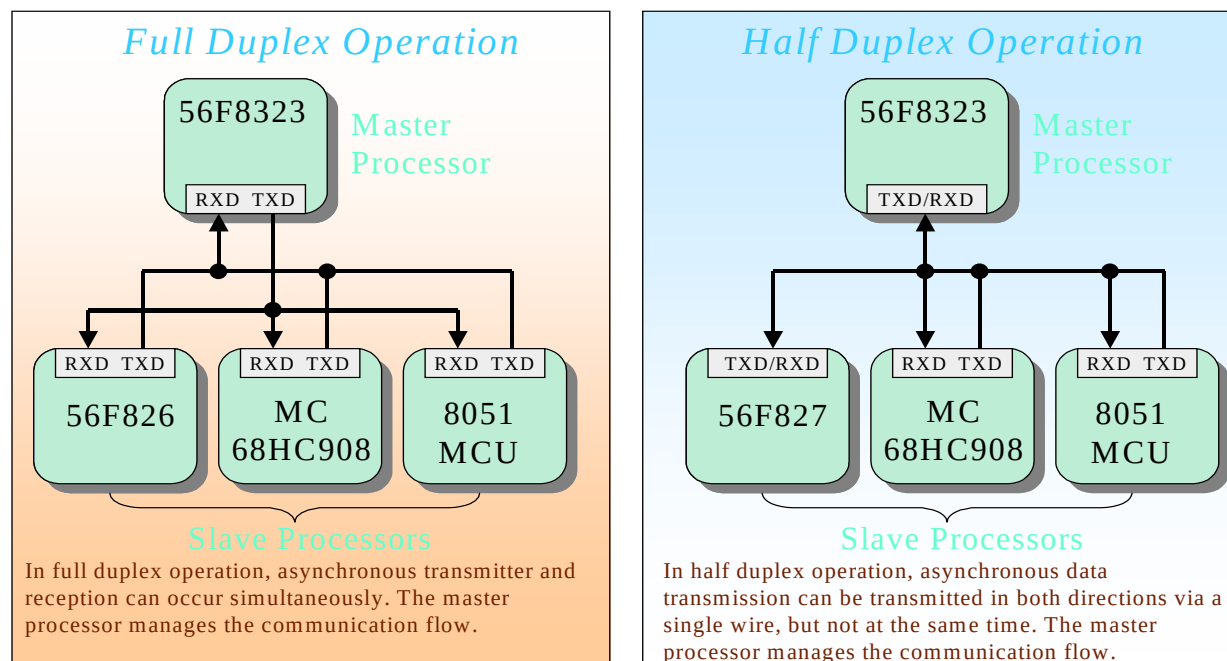

**Figure 1-18. SCI: Multiprocessor Communication**
**Figure 1-18** shows two examples of the SCI used as a multiprocessor communication network.